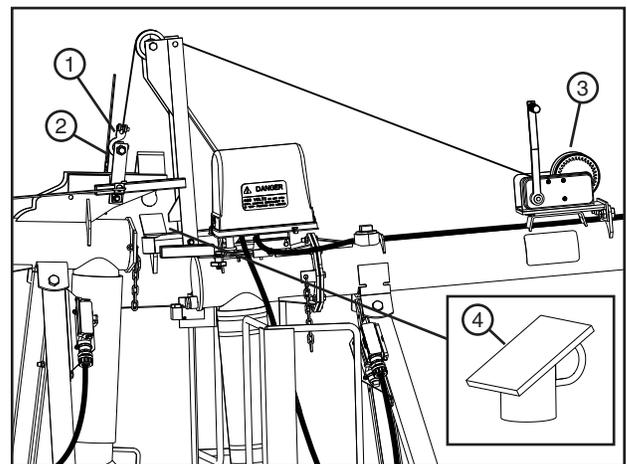

Figure 27-3 1. Hook 3. Winch
15. Install ramp into the hitch socket. See Figure 27-3.